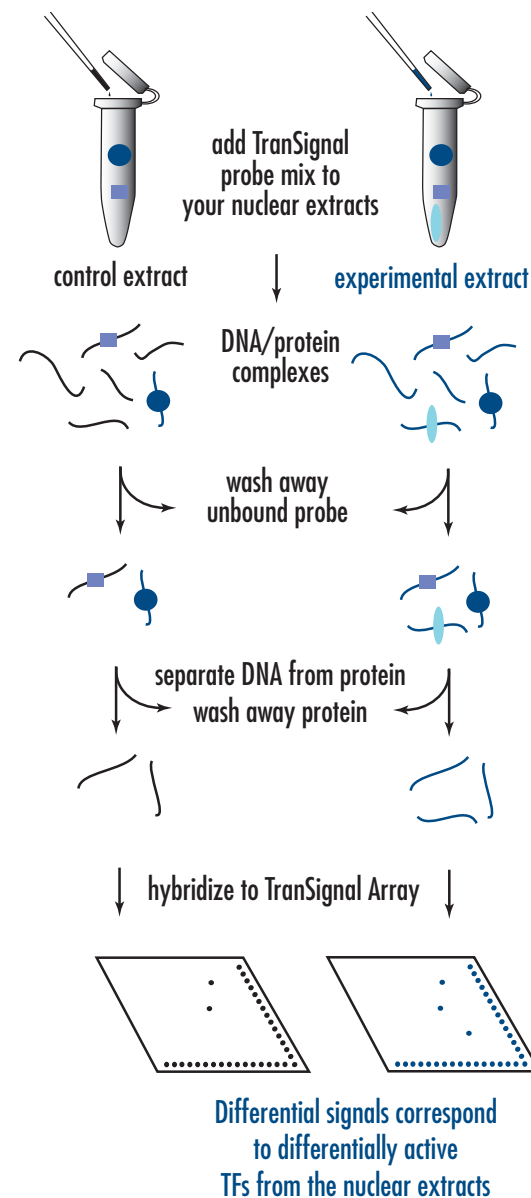

Figure 1: Schematic flow chart of the TranSignal Function-Specific Protein/DNA Array procedure.
TranSignal Arrays use a proprietary, patent-pending technology developed by Panomics for the high-throughput analysis of TF activation. The TranSignal procedure is simple and straightforward (Figure 1). Three basic steps are involved: (1) a set of biotin-labeled DNA binding oligonucleotides (TranSignal Probe Mix) are preincubated with a nuclear extract of interest to allow the formation of DNA/protein complexes; (2) the protein/DNA complexes are separated from the free probes; and (3) the probes in the complexes are then extracted and hybridized to the TranSignal Array. Each kit includes the reagents for HRP-based chemiluminescence detection.